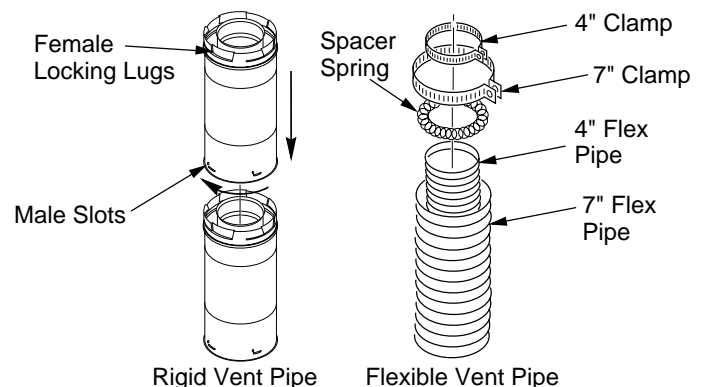

Figure 16 - Vent Pipe Connections
**Twist-lock Procedure:** The female ends of the pipes and fittings have four locking lugs (indentations). These lugs will slide straight into matching slots on the male ends of adjacent pipes and fittings. (All connections must be sealed with high temperature silicone sealant as specified in the second warning statement on page 9.) Push the pipe sections together and twist one section clockwise approximately one-quarter turn until the sections are fully locked. See Figure 16.
Flexible vent pipe must be installed with spacer springs every 12". See Figure 16, page 10. All connections must be clamped tightly and sealed with high temperature silicone sealant as specified in the second warning statement on page 9.
2. Assemble the desired lengths of pipe and elbows necessary to reach from the fireplace flue up through the firestop. All connections must be sealed with high temperature silicone sealant as specified in the second warning statement on page 9. Be sure all pipe and elbow connections are fully twist-locked (see Figure 16, page 10).